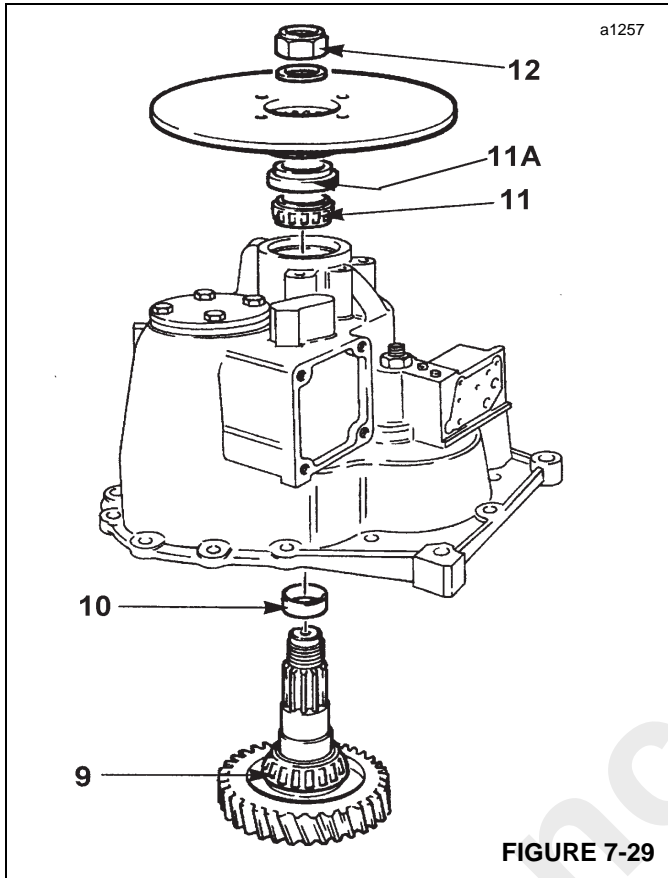

FIGURE 7-29
9. Liberally, coat output shaft inner bearing (9, Figure 7-29) with grease before installing.
10. Install a new collapsible spacer (10) over the output shaft, assembly into output end casing.
11. After coating with grease, install outer bearing (11) followed by a new oil seal (11A). Assemble the brake disc using locating marks made during disassembly. Install new retaining nut (12).
12. Tighten retaining nut (12) to achieve a rolling torque of 0.7 to 2.0 Nm (0.5 to 1.5 lb-ft). Stake the nut into the slot.